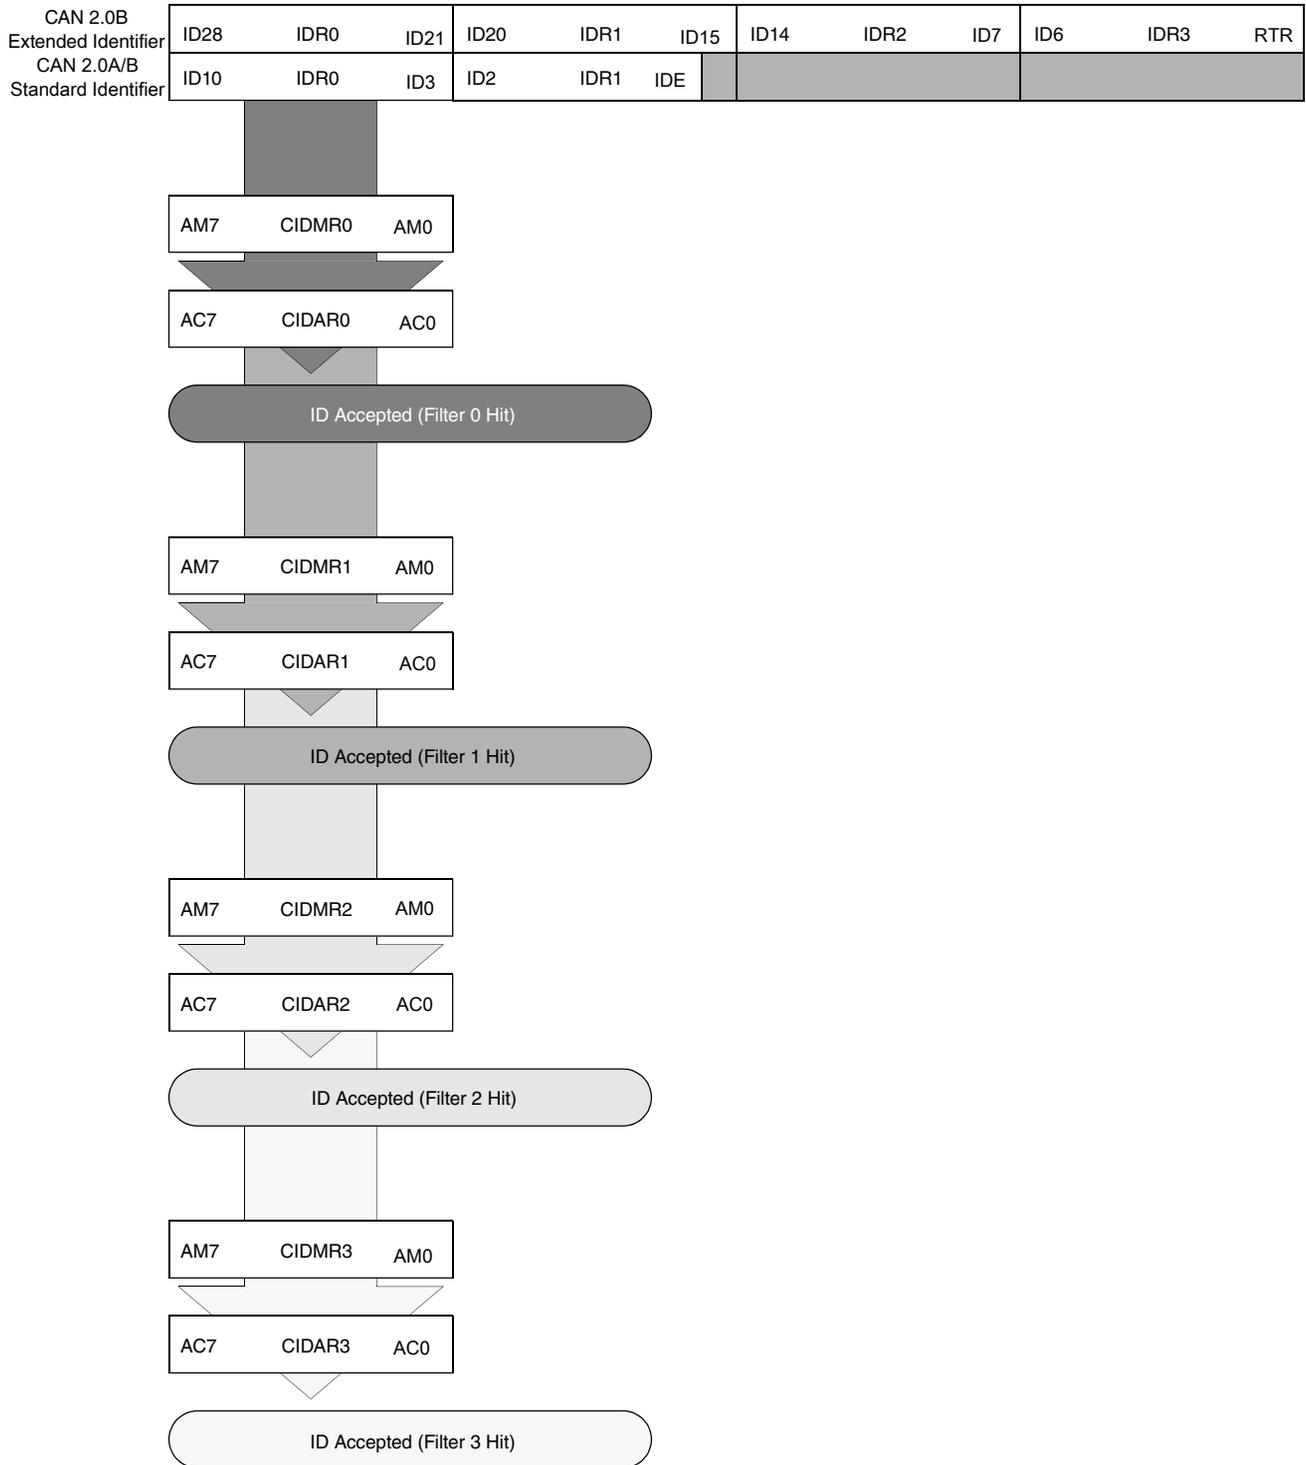

Figure 32-7. 8-bit maskable identifier acceptance filter
- Eight identifier acceptance filters, each to be applied to the first 8 bits of the identifier. This mode implements eight independent filters for the first 8 bits of a CAN 2.0A/B compliant standard identifier or a CAN 2.0B compliant extended identifier. Figure 32-7 shows how the first 32-bit filter bank (CANIDAR0-CANIDAR3, CANIDMR0-CANIDMR3) produces filter 0 to 3 hits. Similarly, the second filter bank (CANIDAR4-CANIDAR7, CANIDMR4-CANIDMR7) produces filter 4 to 7 hits.